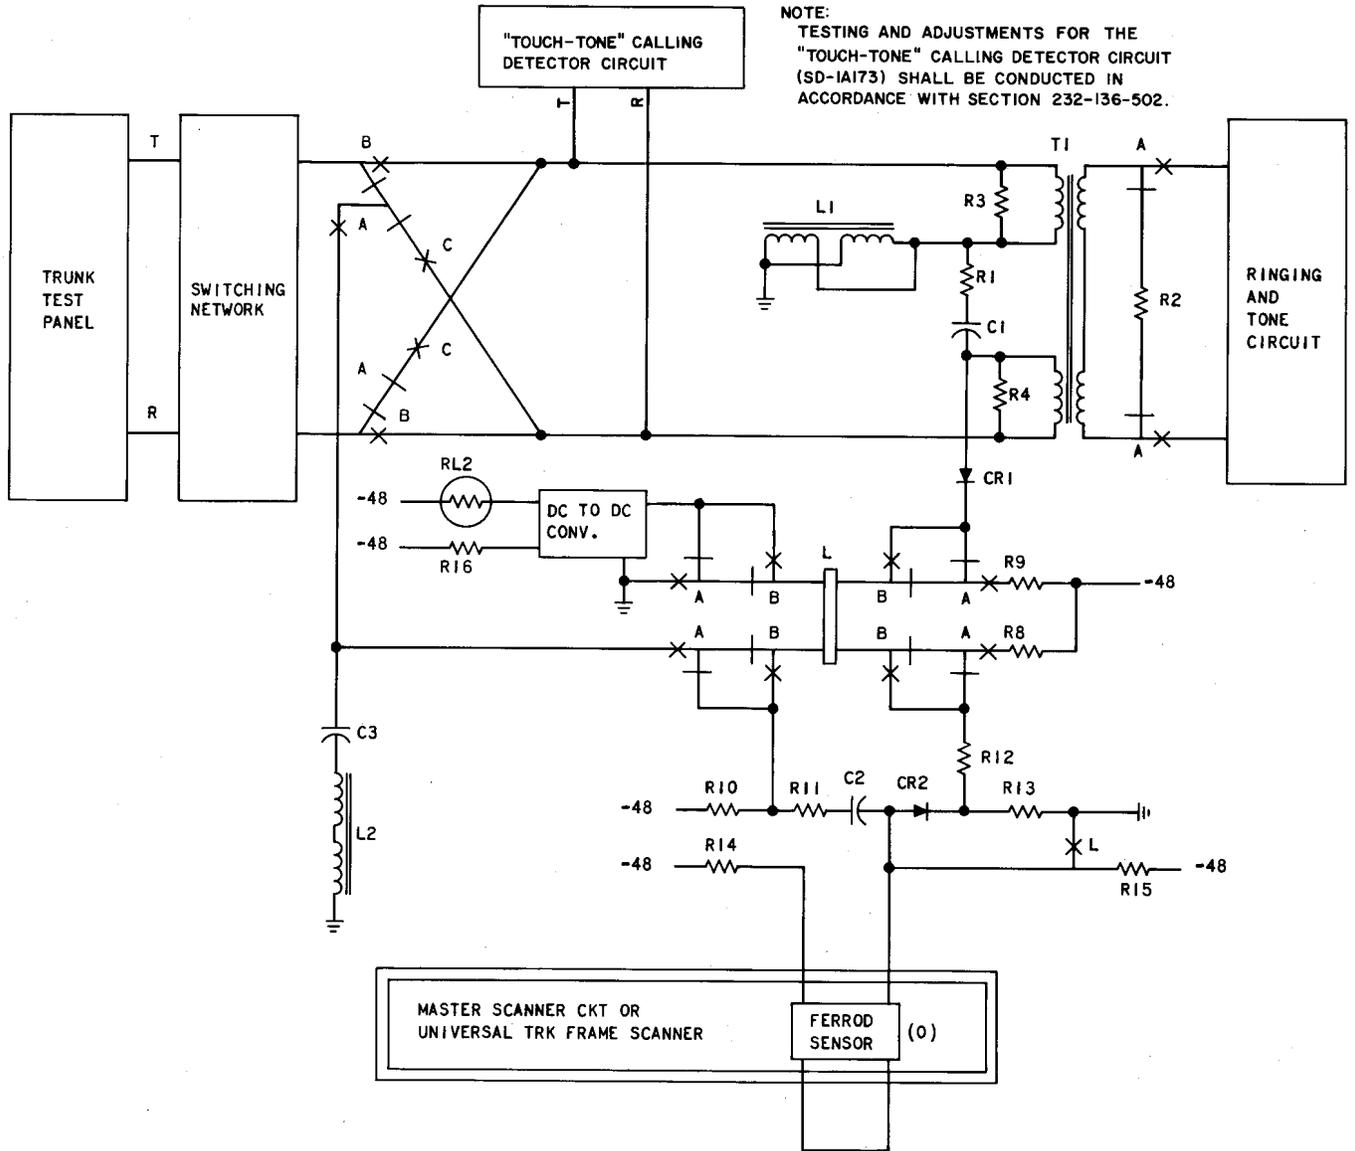
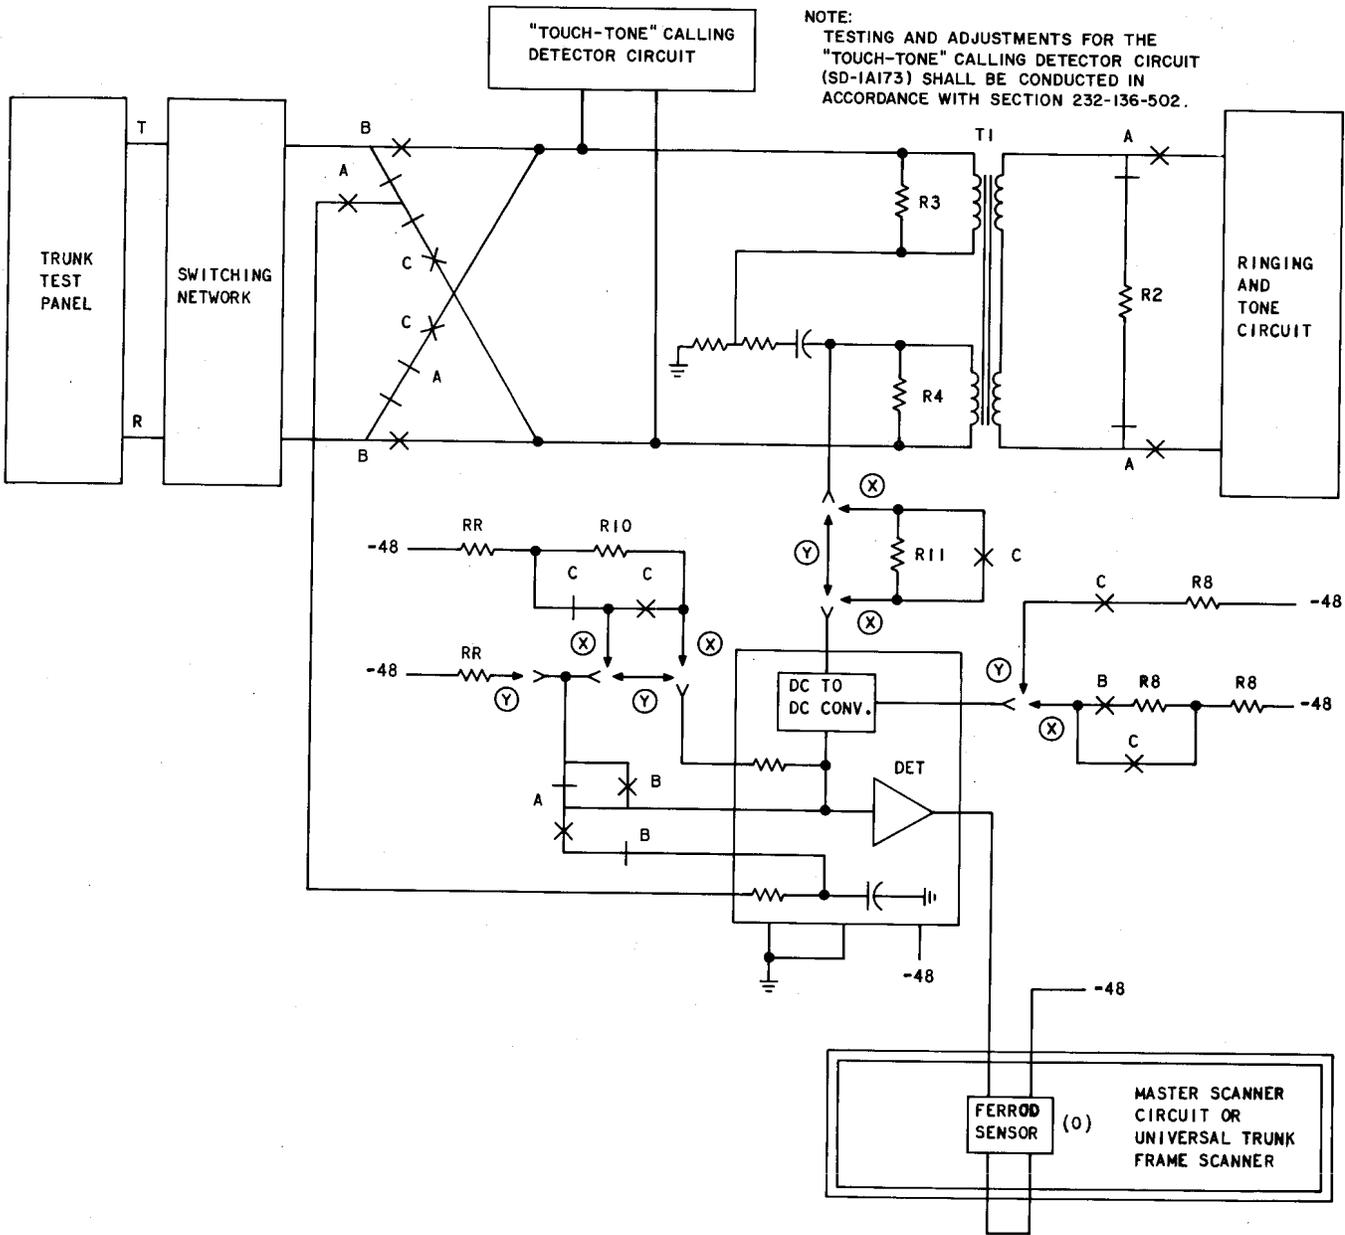

Fig. 1—Customer Dial Pulse Receiver Circuit (SD-2H114-01)
Fig. 2—Customer Dial Pulse Receiver Circuit (SD-2H177-01)
3.03 The following is a step-by-step procedure to make the CDPR circuit traffic busy and connect it to the TTP (Fig. 1 or Fig. 2).